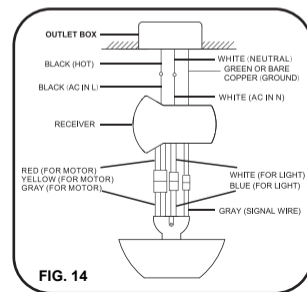

FIG. 14
**Step 3. Motor to receiver wires electrical connections:** Connect the 4P-4P for motor/ 2P-2P for light/ Gray-gray for signal from motor to receiver. (Fig. 14)